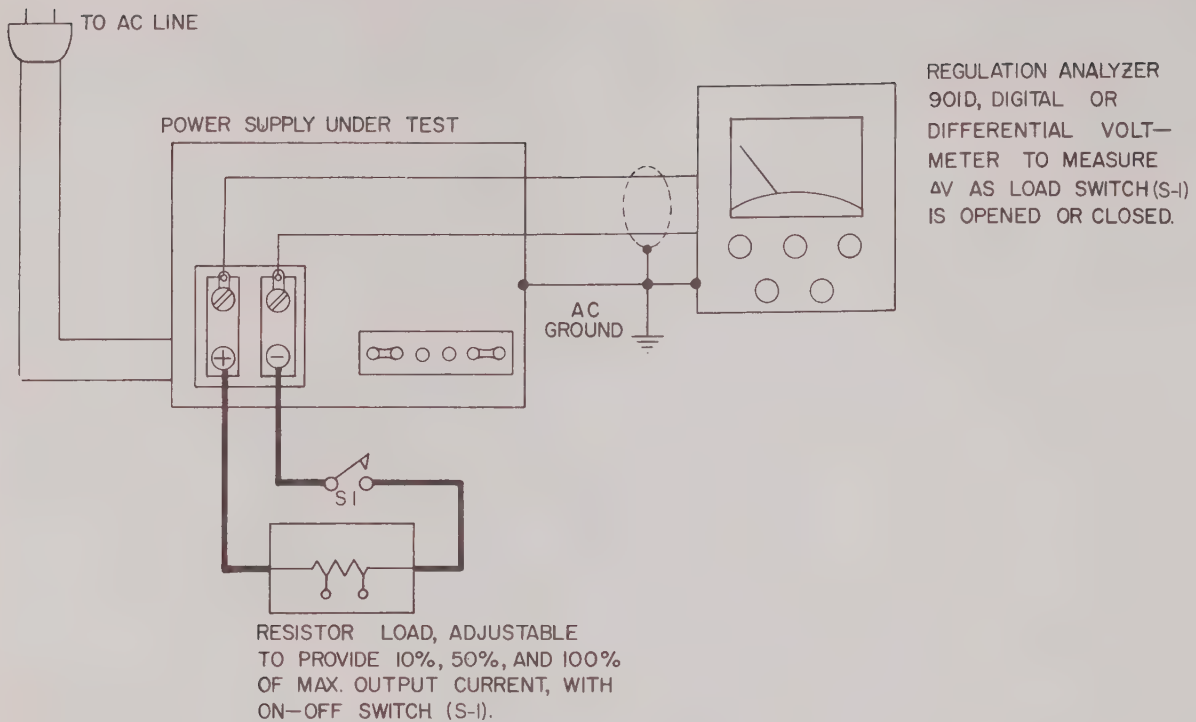

FIG. 5-3 MEASURING LOAD REGULATION (VOLTAGE MODE)
b) The proper location of the instrument leads when measuring regulation is of the utmost importance. Improperly placed leads may measure voltage drop due to contact resistance and load current flow and thus lead to incorrect results. This can be avoided by the four terminal network technique. Figs 5-3 to 5-6 show clearly how this technique is employed in regulation measurements. The principle is very simple but important: Do not measure voltage drops due to load current.